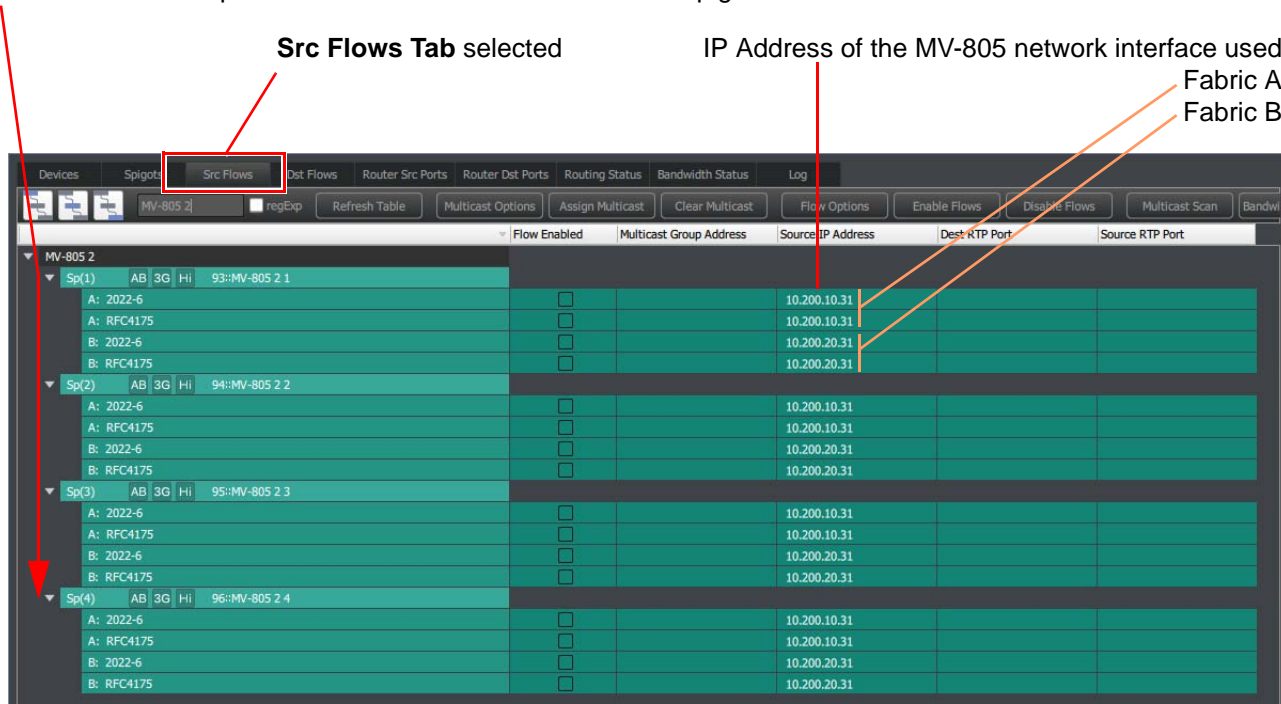

Figure 80 SAM Orbit - Src Flows Tab (MV-805-16 shown)
2. Expand the new MV-805 item to see source flows for each spigot (see Figure 80).